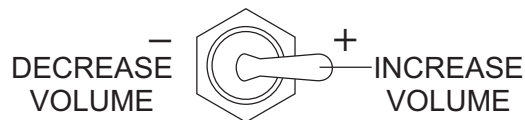

Figure 28. Volume Control Switch
2. Holding the **volume control switch** (Figure 28) to the right will increase pumping volume to approximately 10 strokes per minute. Holding the volume control switch to the left will decrease pumping volume.